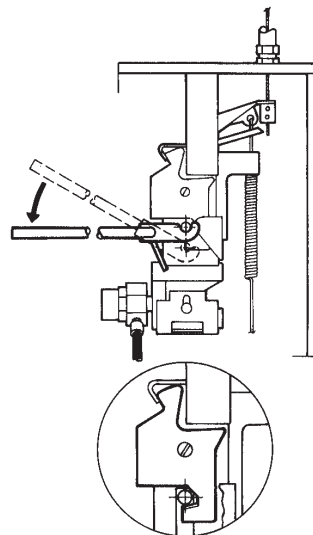

FIGURE 42
11. With a downward motion of the cocking lever, raise cocking pin until the trip lever indented surface moves underneath the pin and locks the pin in the up position. See Figure 42.